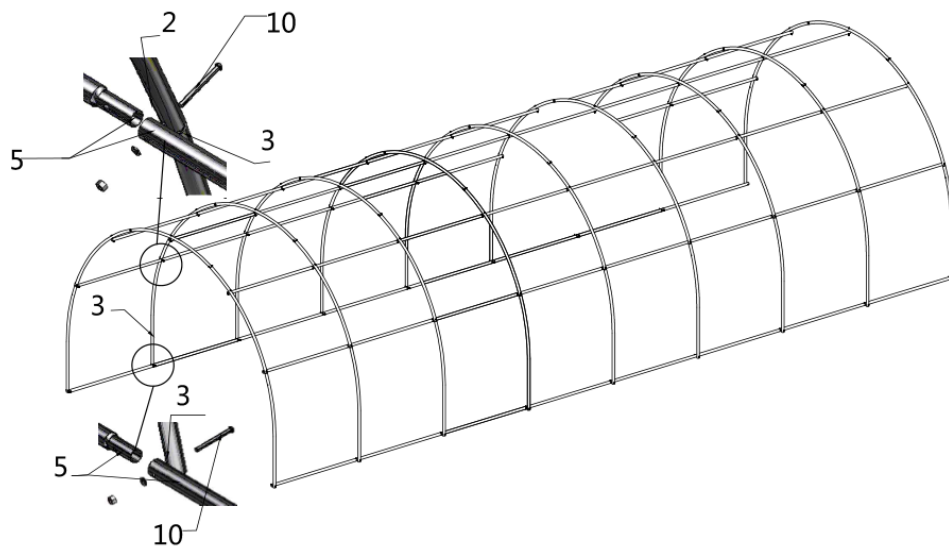

Figure 5
- Repeat the previous step to erect the second span truss, and then connect the other end Roof purlin (#5) with the truss with bolts (#10), and complete the installation of the second truss to the sixth truss in turn. (refer to figure 5)
- (49) Roof purlin (#5)